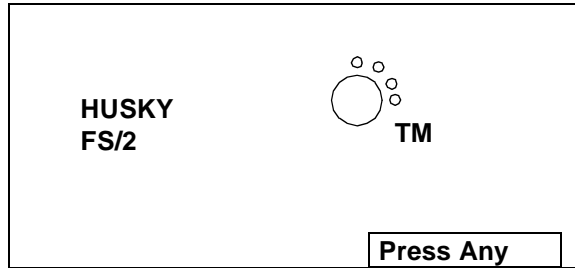

Figure A.1. FS/2 or FS/3 Opening Screen
- If the FS/2 or FS/3 is being used for the first time, or if the FS/2 or FS/3 has been rebooted since its last use, the FS/2 or FS/3 opening screen appears (Figure A.1). If this is the case, go to step 8, otherwise go to step 5.
The FS/2 or FS/3 is recharged as follows: 1. With the DOS prompt on the screen, press the PAW key (shown in Figure A.1.) and the H key to access the FS/2 or FS/3 setup screen. 2. Press the right arrow twice and press YES to access the power parameters screen. 3. Set **ADVANCED POWER MANAGEMENT (APM)** to YES (up or down arrow as necessary, then YES). 4. Press right or left arrow until **CHARGING AUTHORISATION** is highlighted. 5. Use up or down arrow to select **LEVEL 3**. 6. Press YES. 7. Press red power key to turn off FS/2 or FS/3. 8. Connect FS/2 or FS/3 power adapter to facility power and to power port on bottom of FS/2 or FS/3; message “CHARGING IN PROGRESS” appears on the FS/2 or FS/3 screen. When charging is complete, the message “CHARGING COMPLETED” appears.